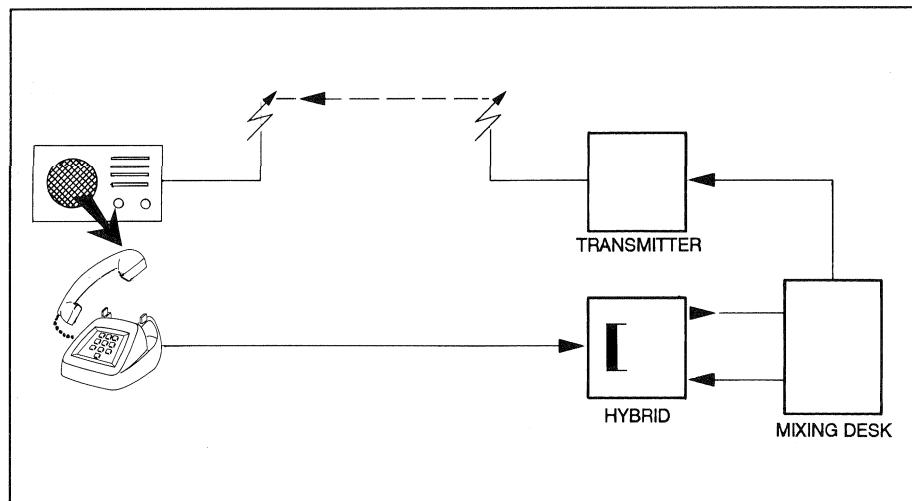

Fig. 5a      Feedback via the radio set of the listener
- Feedback at the subscriber if the radio set and the handset are too close and/or if the caller has turned up the volume of his radio too high (Fig. 5a);